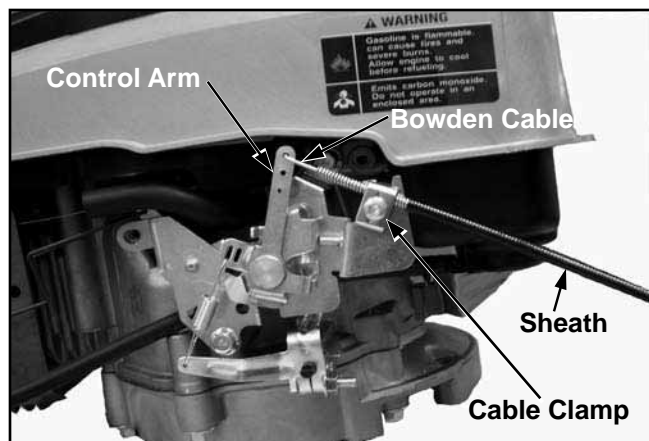

Figure 5-17. Bowden Cable Connection.
1. Loosen the cable clamp and insert the cable sheath through the clamp. See Figure 5-17.